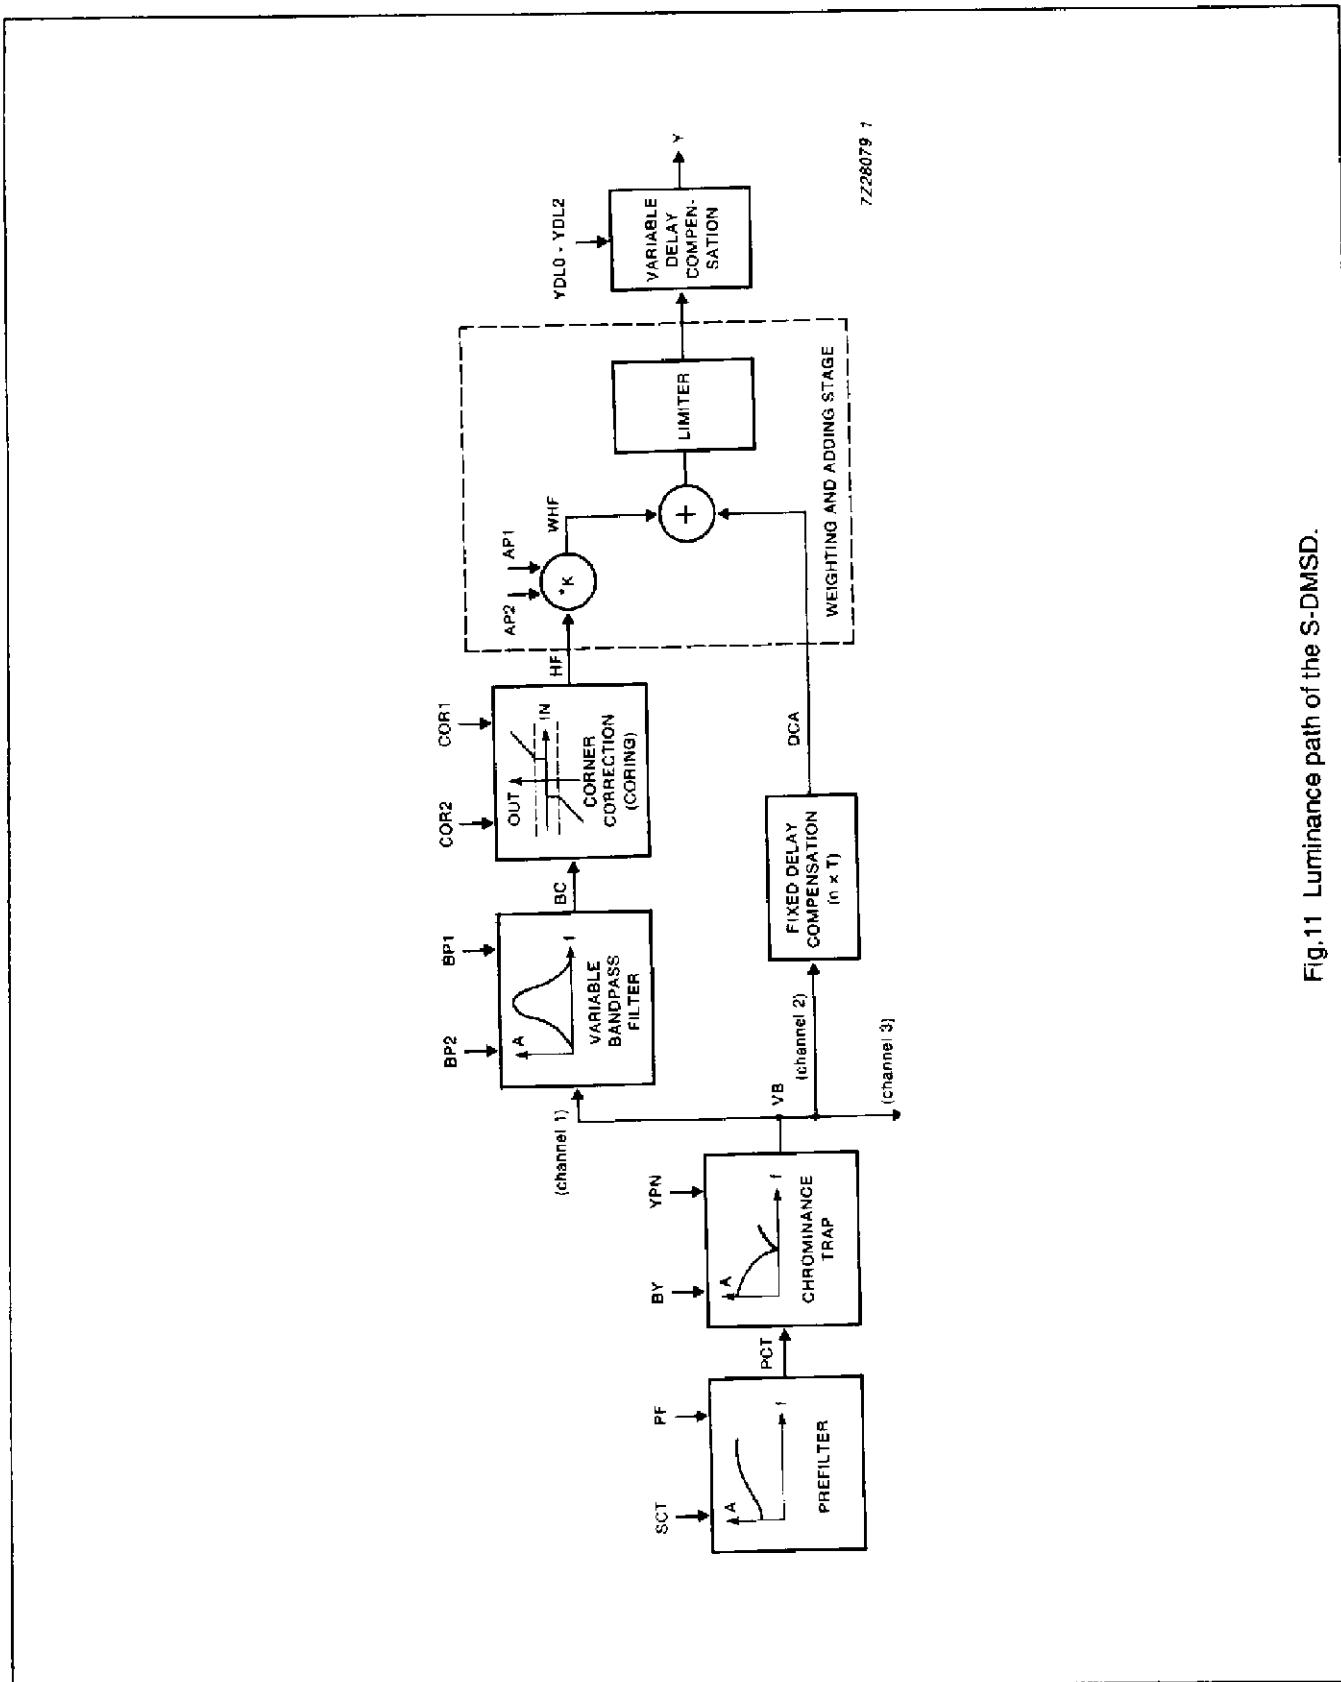

Fig.11 Luminance path of the S-DMSD.
Table 17 Aperture correction factor (AP1 and AP2 select the weighting factor K of the high frequency (HF) luminance components, see Fig. 11)